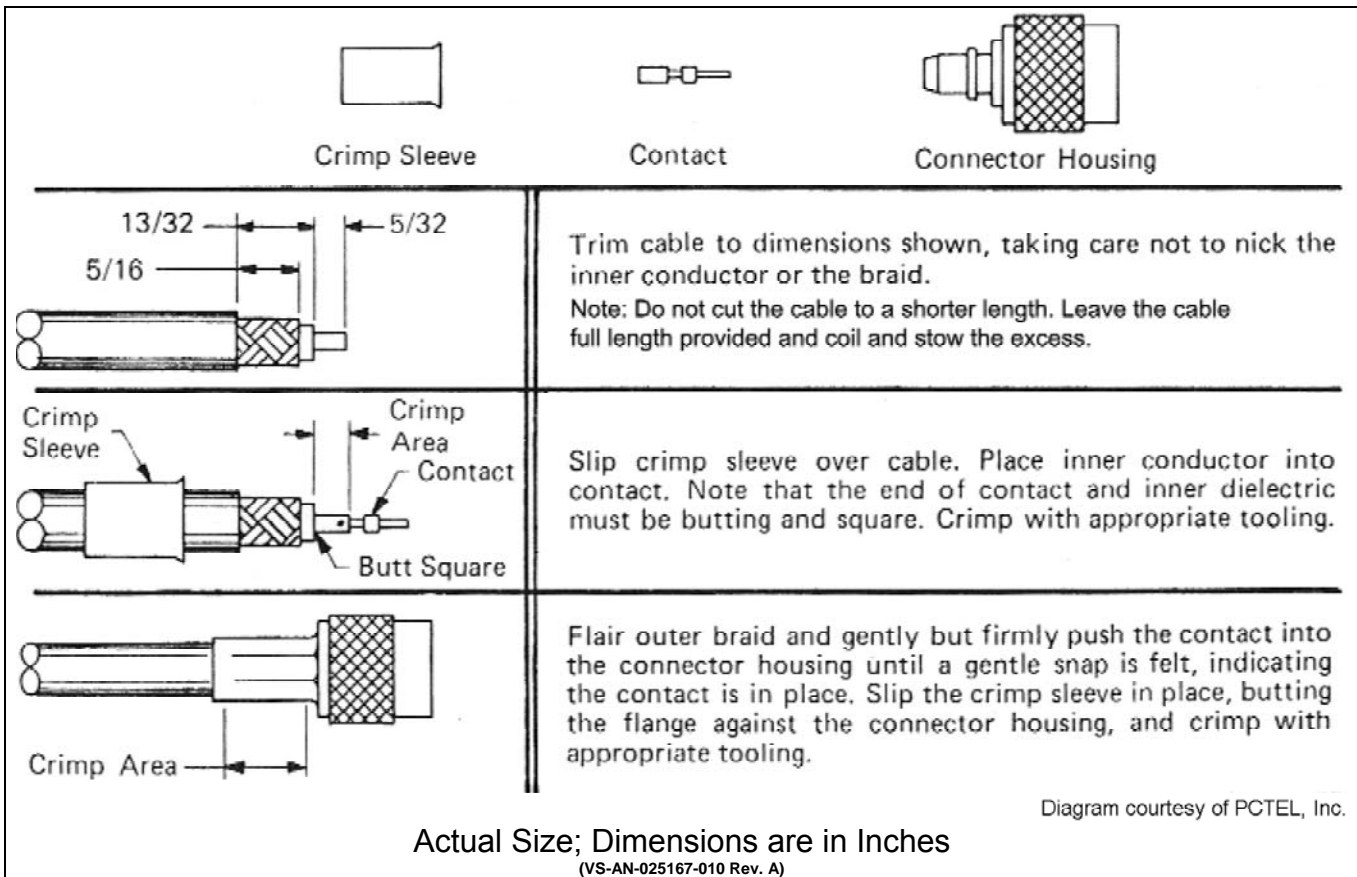

Figure 7-1: Crimping Instructions for TNC RF Connector
- Using an appropriate crimp tool, crimp the supplied TNC RF connector to the end of the antenna cable. For crimping instructions, see Figure 7-1 or the instructions supplied with antenna.